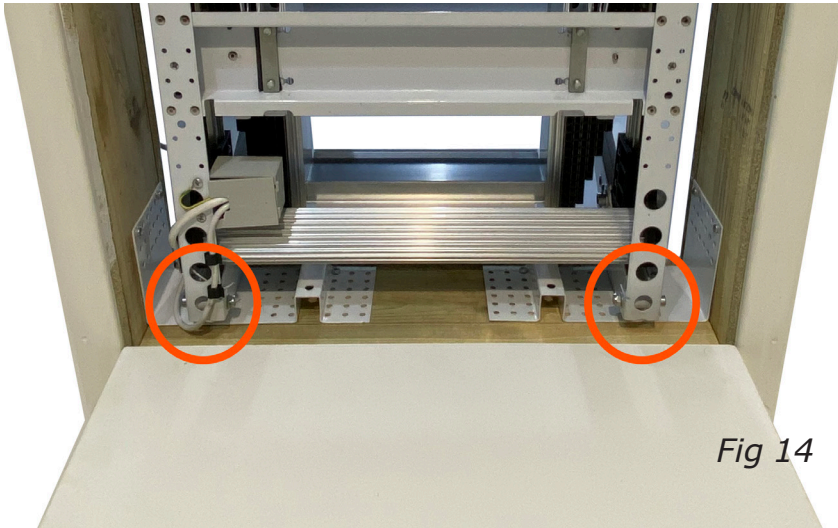

Fig 14
If not level when first secured use the **Allen key 6mm** and the **wire arm adjustment screws** (page 7 for reference) to raise or lower the wire adjustment arms until the bottom of the frame is parallel to the ceiling, ensuring the wires are evenly tensioned. (See Figs 14,15,16)